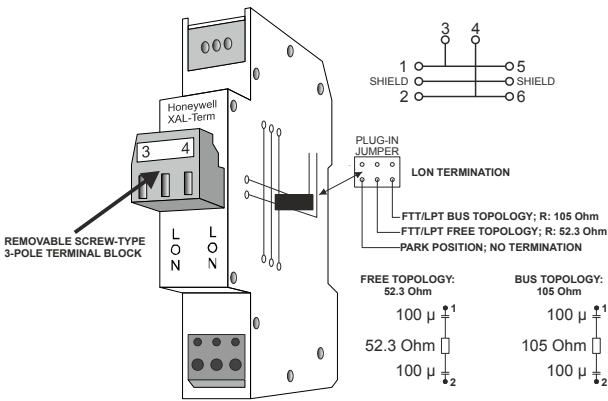

Fig. 70. XAL-Term
- XAL-Term LONWORKS connection and termination module (see Fig. 70), which can be mounted on DIN rails and in fuse boxes.